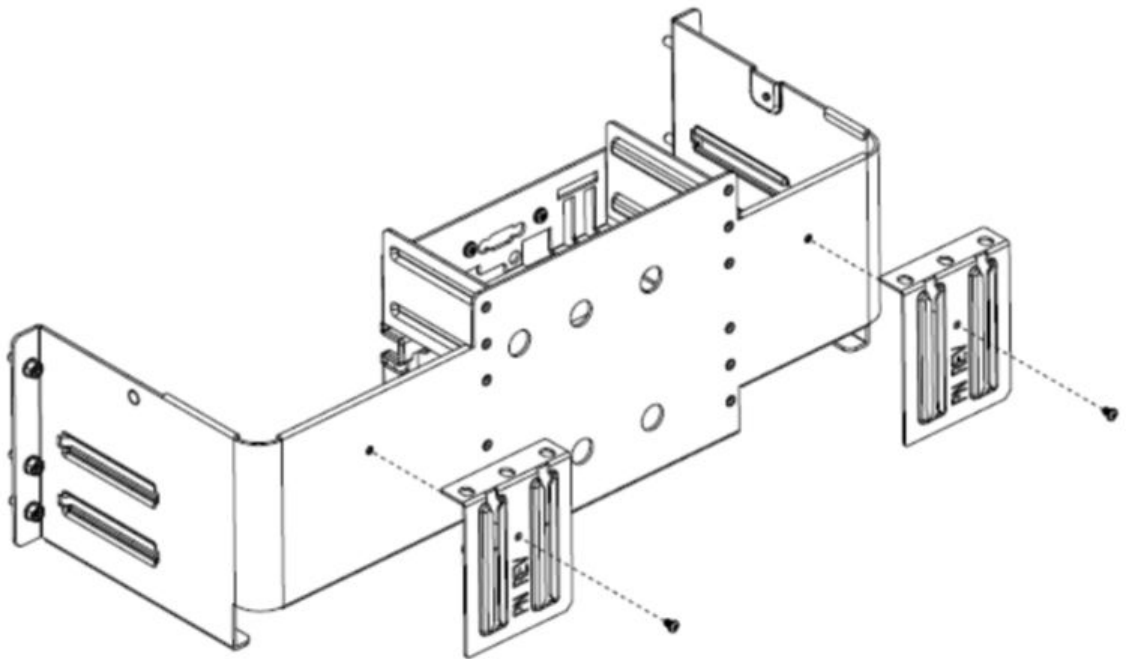

Figure 253. Removing the rail end brackets from the shipping bracket.
4. Remove the screws holding the rail end brackets to the shipping bracket as shown in Figure 253 on page 313